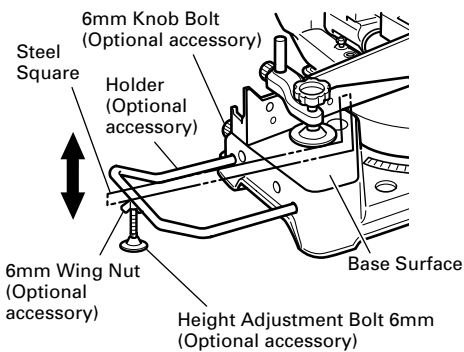

Fig. 14
- (1) As indicated in Fig. 14, use a steel square for aligning the upper edge of the holders with the base surface. Loosen the 6mm wing nut. Turn a height adjustment bolt 6mm, and adjust the height of the holder.
- (2) After adjustment, firmly tighten the wing nut and fasten the holder with the 6mm knob bolt (optional accessory). If the length of Height Adjustment Bolt 6mm is insufficient, spread a thin plate beneath. Make sure the end of Height Adjustment Bolt 6mm does not protrude from the holder.